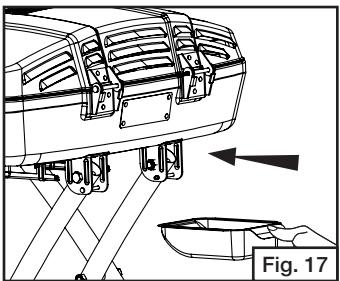

Fig. 17
- Install drip tray below rear of grill. (Fig. 17)